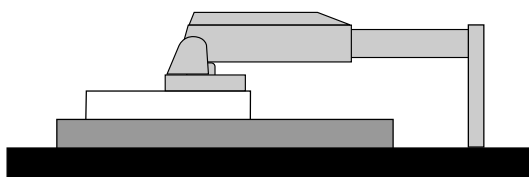

Figure S.1
3. Place monitor face down on a non-abrasive surface (**Figure S.1**).